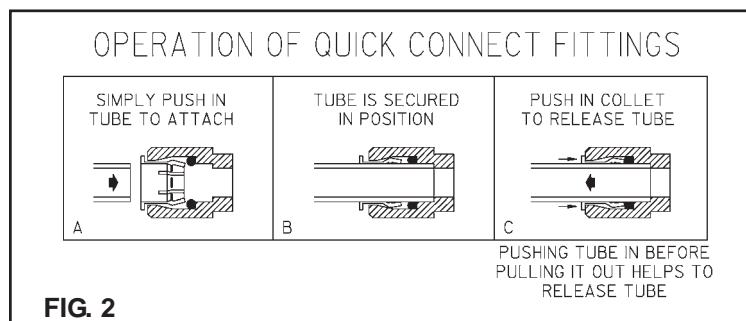

FIG. 2
5. Connect fountain to supply line with a shut-off valve and install a 3/8" unplated copper water line between the valve and the cooler. Remove any burrs from outside of water line. Push the tubes straight into the fittings until they reach a positive stop, approximately 3/4" (See Fig. 2). DO NOT SOLDER TUBES INSERTED INTO THE STRAINER AS DAMAGE TO THE O-RINGS MAY RESULT.
Fountain is provided with lead-free connectors which utilize an o-ring water seal. To remove tubing from the fitting, relieve water pressure, push in on the gray collar while pulling on the tubing.(see Fig.2) To insert tubing, push tube straight into fitting until it reaches a positive stop, approximately 3/4".